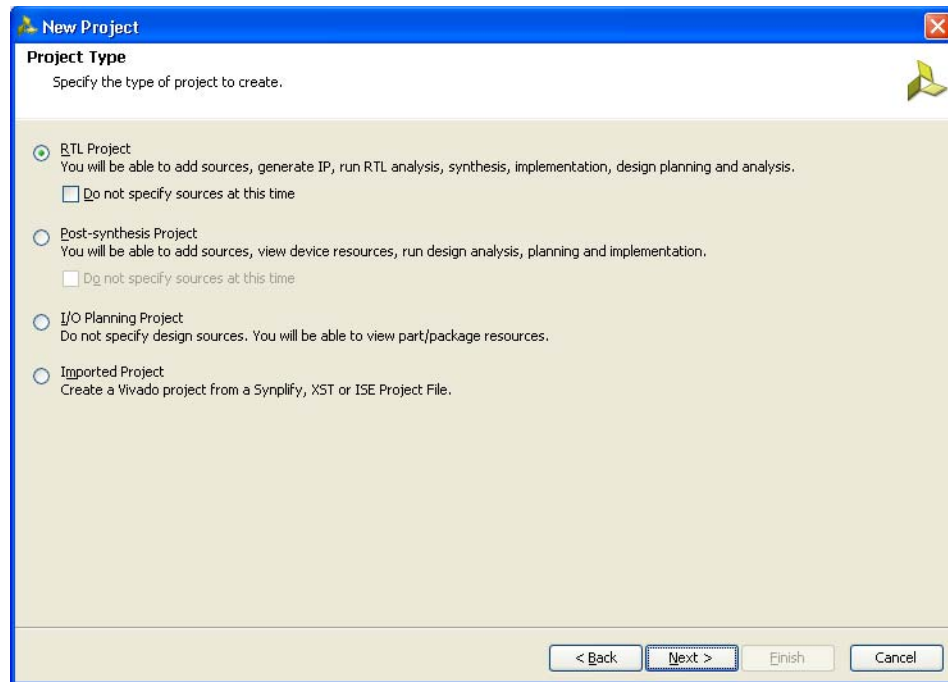

Figure 1-4: Project Type
- Click **Next** to proceed to the **Project Type** page (Figure 1-4). Select the **Project Type** as **RTL Project** because MIG deliverables are RTL files.